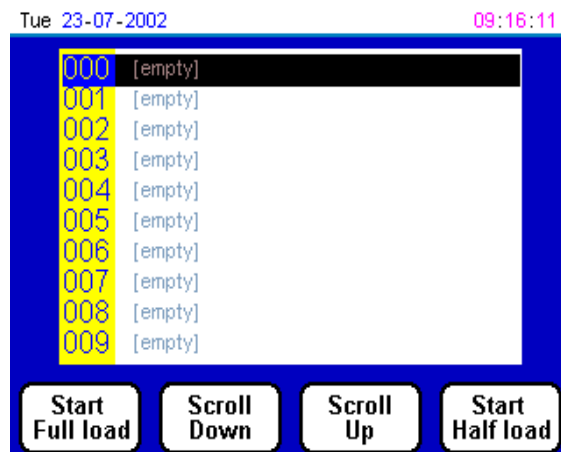

Fig 2
4. Press (4) and program list appears (see fig 2). (If oven has not been programmed go to section 9 - programming).
9. This will now take you back to program screen (Fig 2).